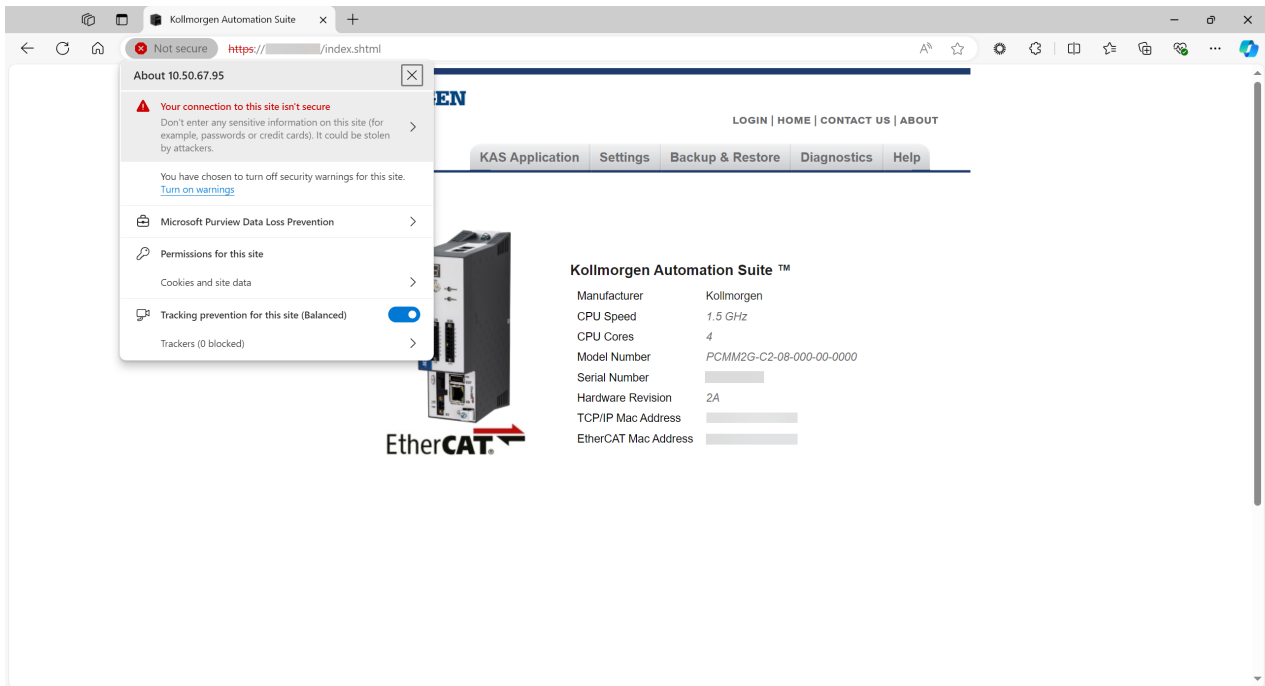

Figure 9-27: Your connection to this site isn't secure option
15. Click the **Not secure** button and click the **Your connection to this site isn't secure** option. (Figure 9-27)